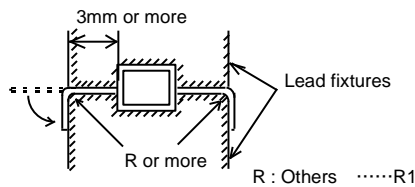

Fig.2 Lead bending fixture
- c) Any lead should be bent though a radius of at least 1mm. As shown in Fig.2, it is recommended to form the leads with a specified fixture.